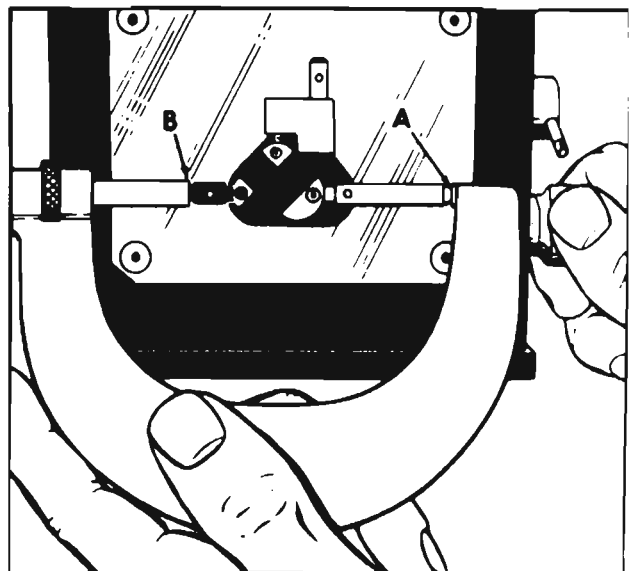

Fig. 30
1. (Fig. 30). A micrometer may be used as follows: Lock the micrometer at the desired size. Hold one side of the micrometer against extension gage point "A" and adjust gage until extension gage point "B" just contacts the other side of the micrometer. Hold micrometer steady against extension point "A", slowly move the other side of the micrometer across extension point "B" in all directions, and adjust gage further until minimum indicator reading (maximum counter-clockwise movement of indicator hand) reaches approximately the 3 o'clock position. Release adjusting knob tension 1/2 turn.